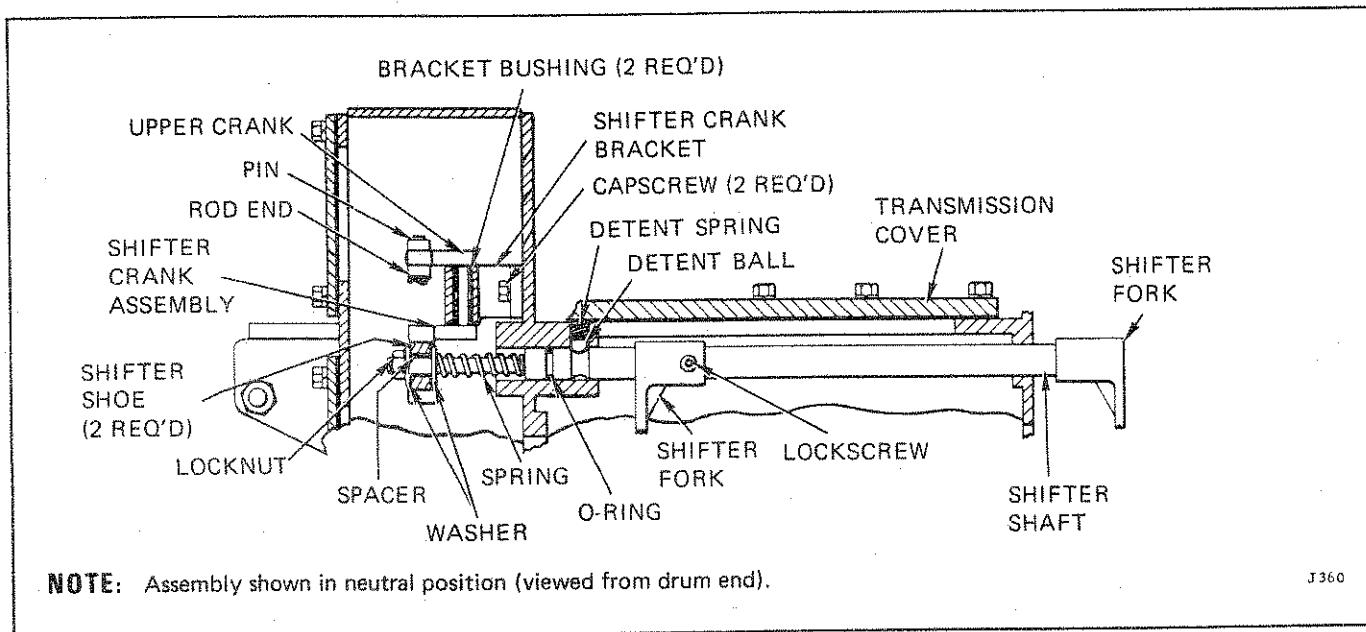

FIGURE 4-3. DIRECT DRIVE SHIFTER ARRANGEMENT
Plugged suction filter.	Remove suction filter, clean, and replace. See Figure 4-3.
4-11. ADJUSTING CLUTCH HANDLEVER. (See Figures 4-3 and 4-5.) The Clutch Handlever (see figure 2-1) controls the dental clutches through a plastic-lined control cable. The shifter assembly will shift the dental clutches into Forward, Neutral and Reverse positions when the control cable to the clutch handlever is properly adjusted. To adjust the position of the clutch handlever, proceed as follows:
a. Remove the LH upper access cover and place the shifter assembly in Neutral (see Figure 4-3). The shifter linkage will positively detent to this position.